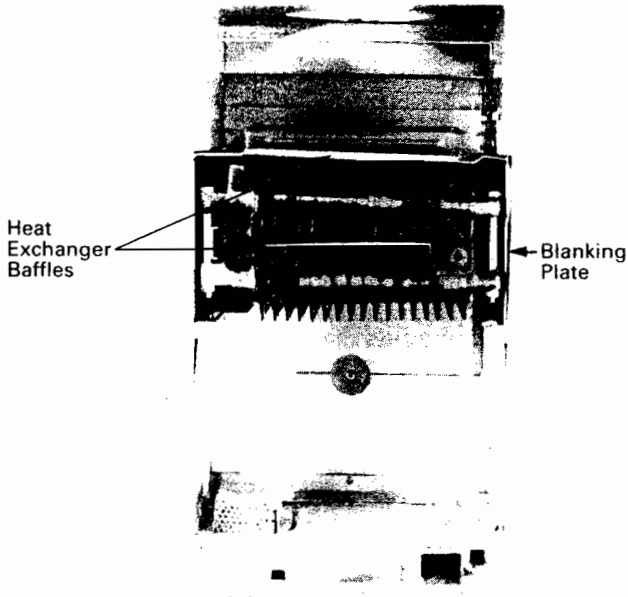

Fig. 3. Boiler Connections
Boiler Connections (Fig. 3)
- Slide out the baffles from between and above the heat exchanger castings and slide out the blanking plate (Fig. 3).
- Remove the two right angled securing clips (Fig. 3).